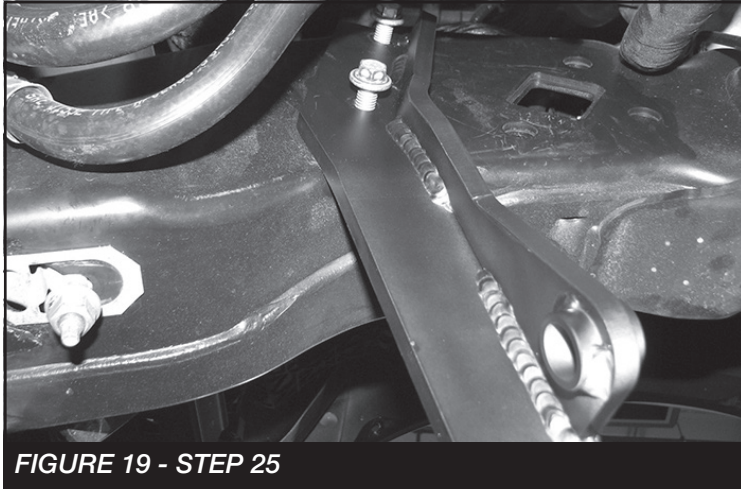

FIGURE 19 - STEP 25
25. Install FT30672 (steering stabilizer drop bracket) in the factory location using the factory hardware. Torque to 52 ft-lbs. **SEE FIGURE 19**